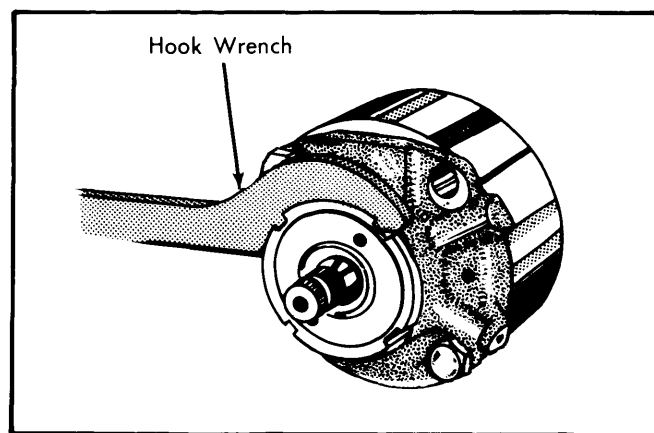

Fig. 6 Removing Slotted Nut with Special Hook Wrench
8) Remove bearing insert from bearing cap, using spanner wrench (Fig. 6), then remove seal and "O" rings from worm gear.